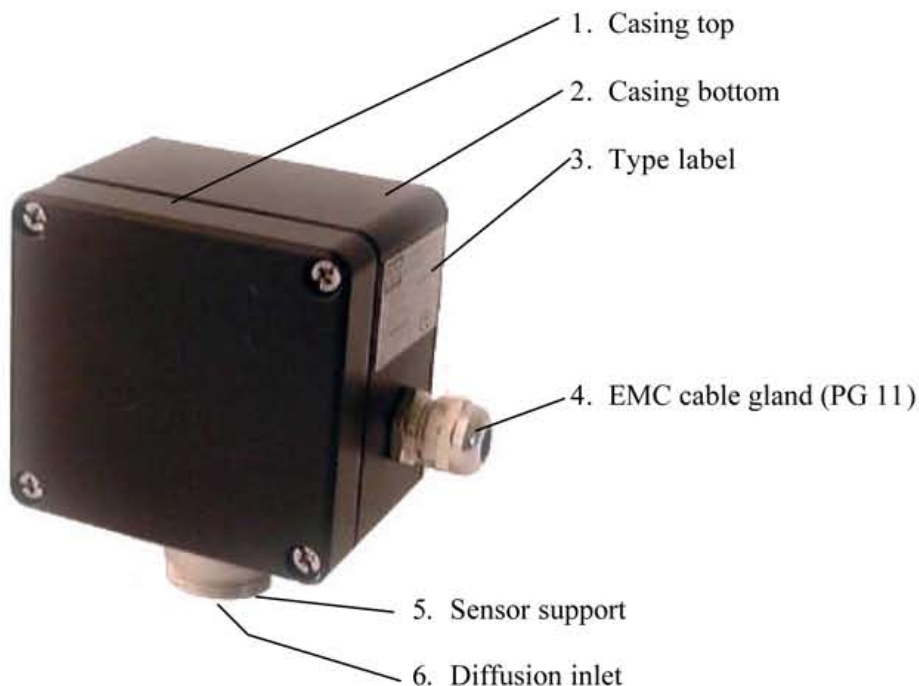

Fig. 2
The design of the CS21 is shown in Fig. 2. The sensor is mounted in the sensor support (pos. 5). The gas enters the sensor chamber through the diffusion inlet (pos. 6). The casing (pos. 2) includes a resin encapsulated p.c.board with electronic components. The electronic circuit on the p.c.board converts the measurement signal into the output of 0.2 .. 1 mA or 4 .. 20 mA, which is supplied to the evaluation unit by means of the transmitter cable.